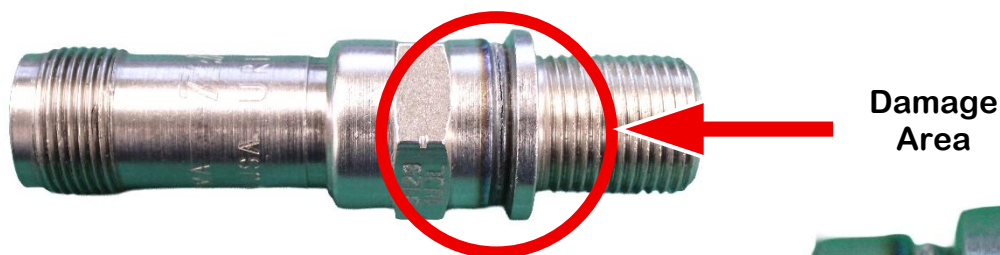

Figure 1
There have been field reports of cracks in Tempest® spark plugs. The area of damage is shown in Figures 1 & 2.
3. If an affected spark plug is found to be installed, remove the affected spark plug(s) from the engine and visually inspect for cracks as shown in Figures 1 and 2. Similarly, inspect any affected spark plugs in inventory.